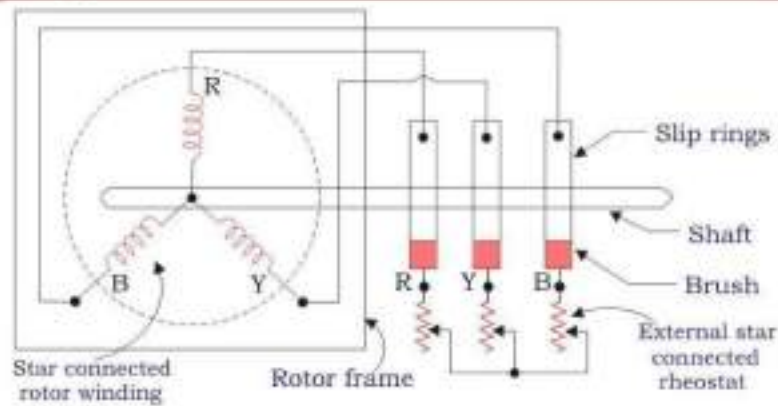

Fig 5.7
- In this type of construction, rotor winding is similar to the stator. The rotor carries a three phase (star / delta) connected, distributed winding, wound for same number of poles as that of stator as shown in figure 5.7.